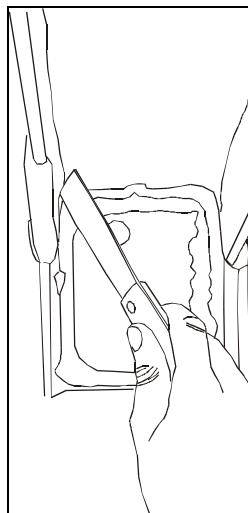

FIGURE 2: RISK AREAS
2. Remove asphalt base undercoating (Gravel Guard 3M) and any rust present near the risk or affected area, the risk areas are located underneath horizontal "U" beam and are indicated in figure 2.